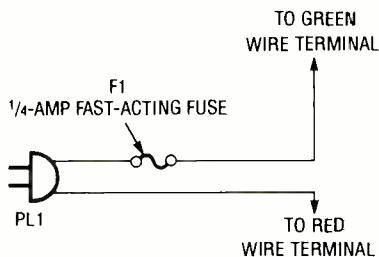

Fig. 5. A quick test jig can be made from a linecord and a fast-acting fuse, as shown here. Be very careful to insulate all the connections of this assembly.
**Testing and Operation.** Start by re-checking your wiring to make sure you haven't made any errors. When you are confident that everything is okay, you can check out the ring converter by using the 60-Hz signal present on your home's powerlines. To do that you will have to take a line cord and add a fuse to it to form a test jig as shown in Fig. 5. **Be sure to use a ¼-amp fast-acting fuse as shown, and insulate all connections to prevent a shock hazard. Be cautious when working with house current—remember: safety first!** Once you've modified the line cord, attach it securely to the appropriate points on the circuit board.